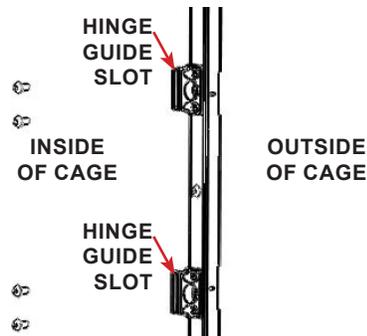

FIGURE 3.7 - Hinge Assembly Rotate
STEP 6: Flip, rotate the hinge assembly to the right side of the cage frame so that the hinge bushing guide is located on the inside of the cage frame. See FIGURE 3.7